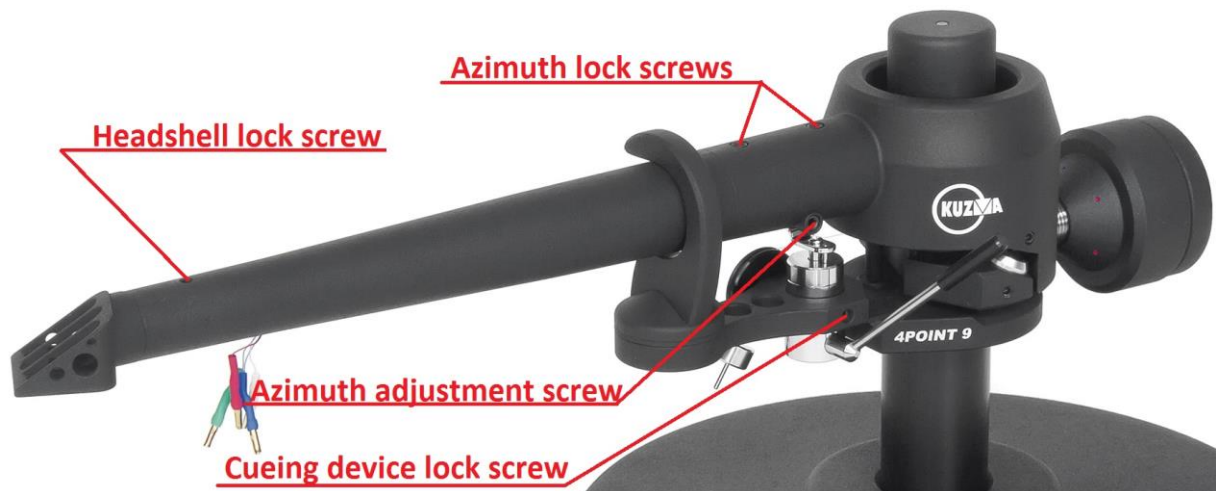

Fig. 2. Various screws for adjustments- lift side
To make azimuth adjustments, release the two screws locking the mechanism on the centre top of the tonearm tube, with Allen key 2mm. Under the main tube is a tiny rod with a hexagonal screw. Insert the Allen key 2 mm into the screw (it may feel loose), rotate it slightly and it will alter the azimuth. (Fig. 2 &14a-d) See Appendix 2.